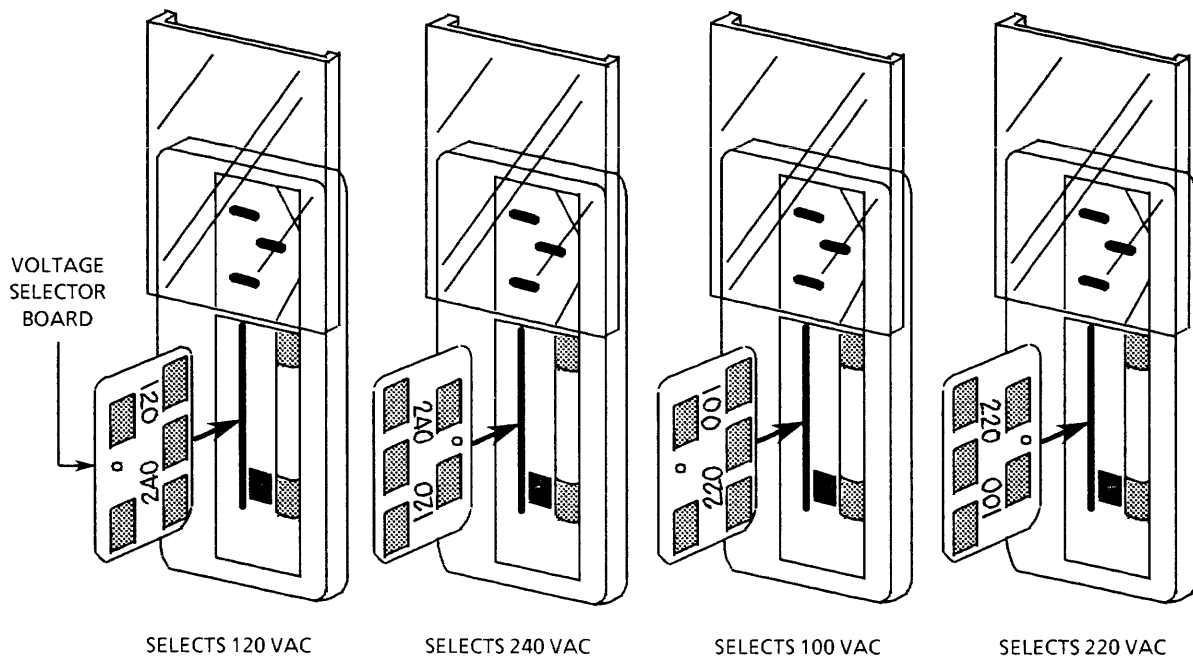

Figure 3-2. Line Voltage Selector Board Orientations
See Chapter 3 for instructions on how to change the line voltage selection (and fuse) to accommodate other AC source voltages, and to see how the line voltage board should be inserted in the system (see Figure 3-2).
To change the line voltage setting, you must remove the line voltage selector board, rotate it so that the desired voltage can be read when reinserted, and then reinsert the board. Figure 3-2 shows proper orientations of the line voltage selector board.
4. The board has four numbers printed on it: 120 and 240 on one side, and 100 and 220 on the other side. Rotate the board so the desired voltage number is on the side of the board facing the fuse (see Figure 3-2).